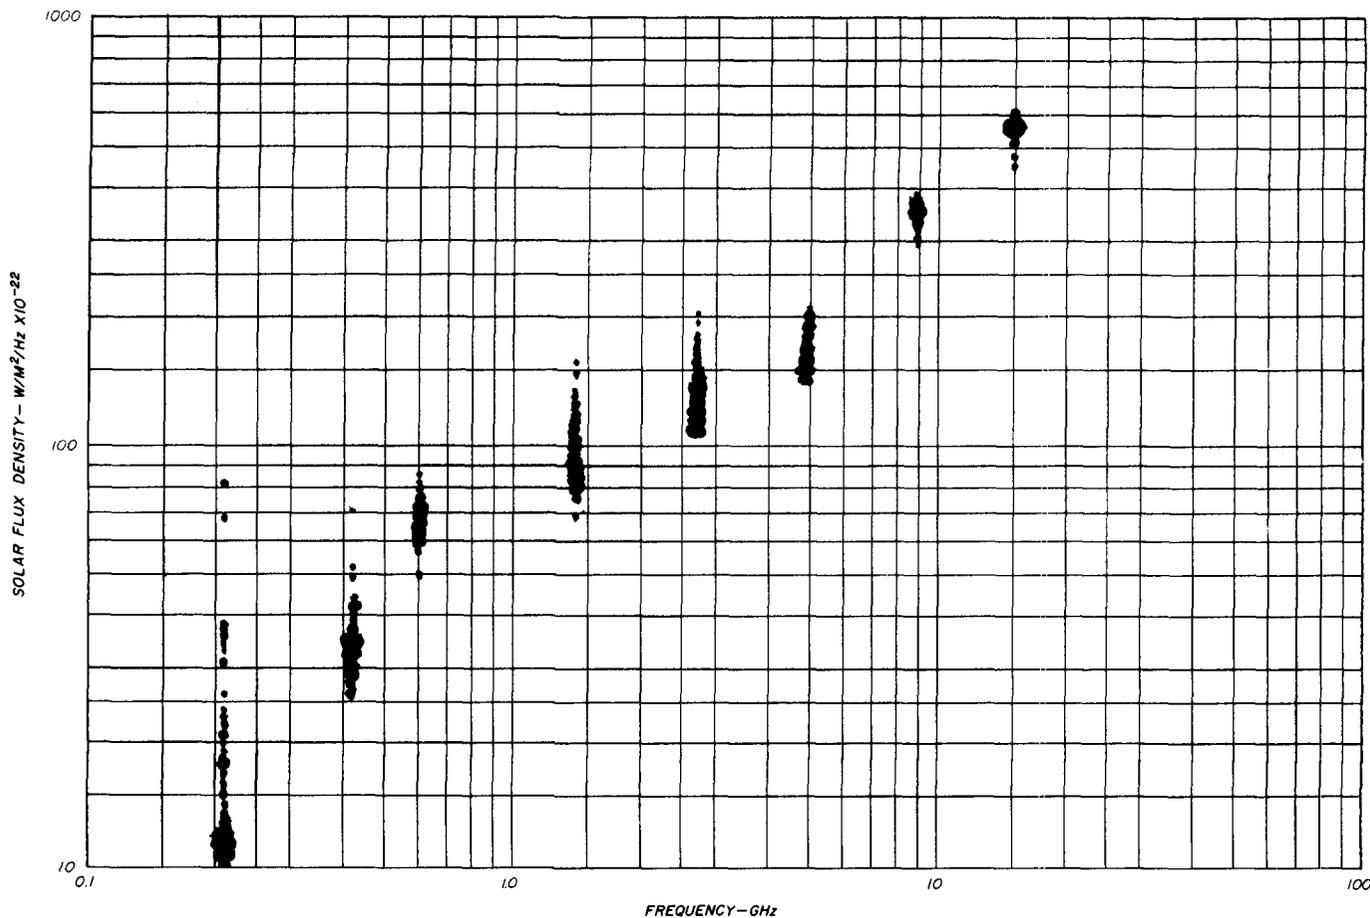

fig. 1. Solar flux density vs. frequency for July through December, 1978.
1. Source used. The flux density, S , of the sun varies randomly by a factor of two or more. Therefore measurements from the sun may not be accurate within 3 dB unless corrected for actual solar flux at the time of observation (see table 1 and fig. 1). If G/T is large enough to permit radio star measurements, accuracies to within 0.5 dB are attainable